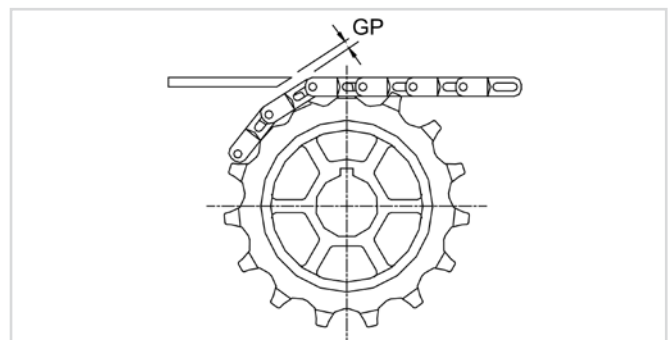

Figure 3-32
Because most belts and chains consist of flat modules wrapping around sprockets there will be high and low points on the surface at the dead plate transfer. For this reason a gap (GP) is required between the dead plate and the belt surface to allow these high points to pass through. See figure 3-32.